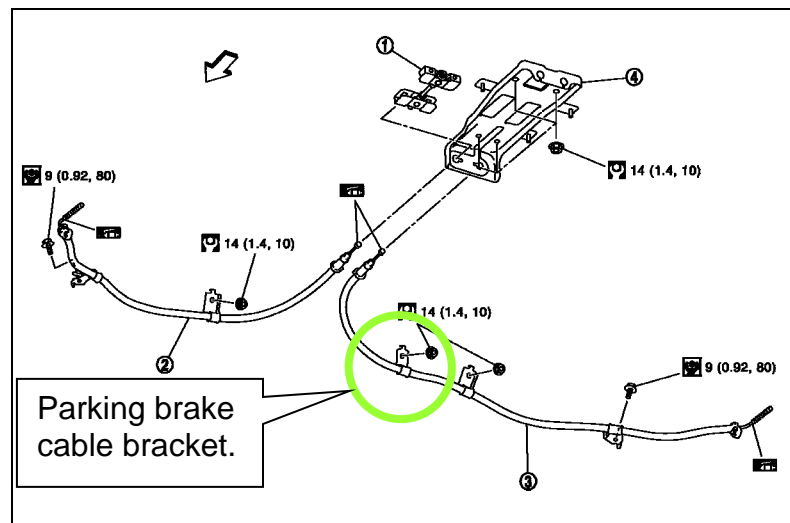

Figure 6
7. Remove the right side parking brake cable bracket (Figure 6) from the cable and discard.